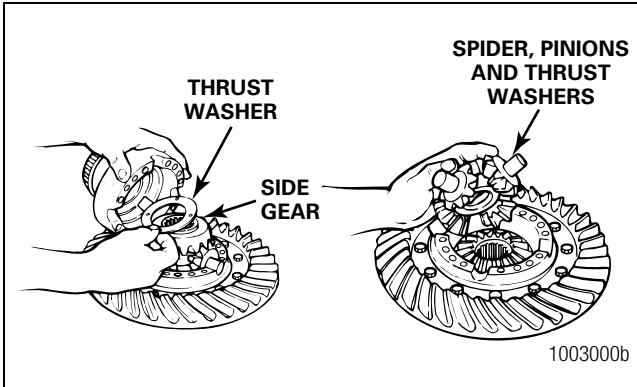

Figure 3.18
4. Remove the differential spider or cross, four pinion gears, two side gears and six thrust washers from inside the case halves. Figure 3.18.